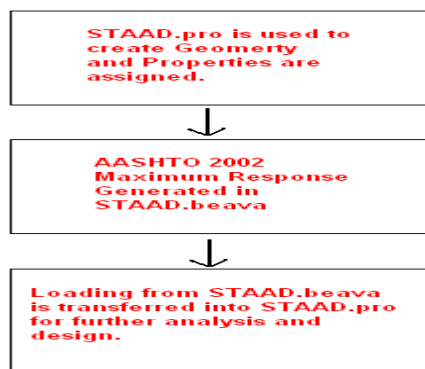

Figure 1: Bridge Design process in STAAD.pro
18. cases to load combinations for further analysis and design. Figure 1 shows the bridge design
Figure 1 shows the bridge design procedure discussed above.